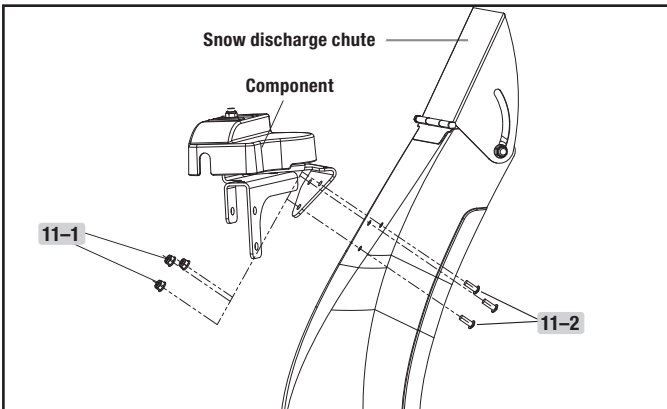

Figure 11A
2. Tighten snow discharge chute and the worm gear using three bolts (11-1) and three nuts (11-2) (Fig. 11A).